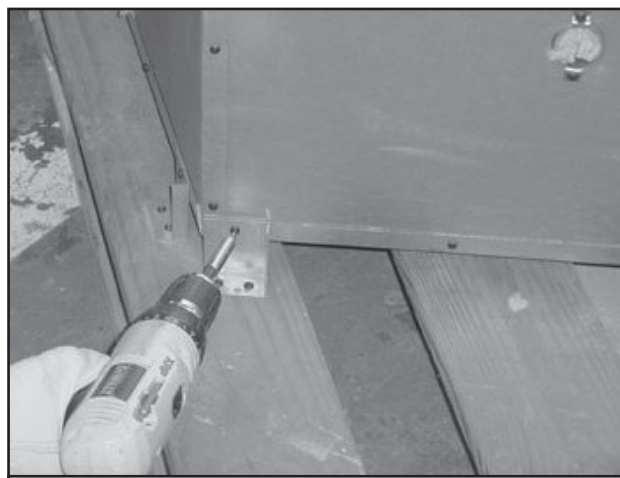

Figure 3.12 Removing Shipping Brackets
- Remove shipping brackets as shown in Figure 3.12. Replace the screws removed from the fireplace.
- Remove fireplace from pallet. The fireplace is attached to pallet with two brackets on each side and rear of outer shell. See Figure 3.12.